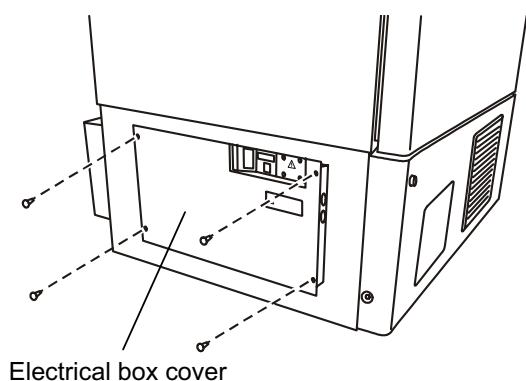

Fig. 3
3. Remove 4 screws fixing the electrical box cover with a screw driver. (Fig. 3)
3. Take off the recorder sensor cover in the chamber (bottom left side) by removing two screws. Then remove the rubber cap and insulation covering the sensor port. (Fig. 3)